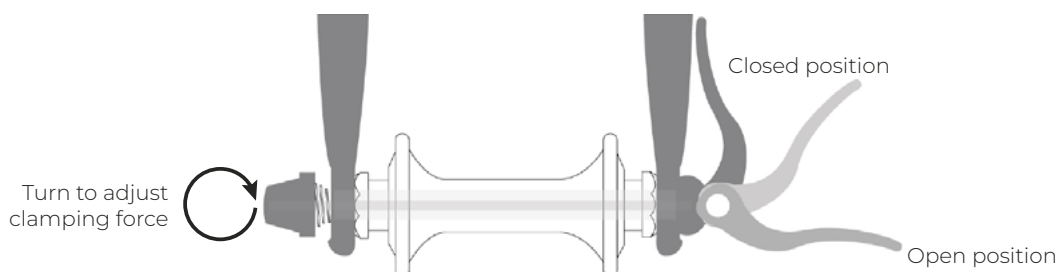

Figure 10
It is the power of the cam that maintains the wheel in place. It squeezes the wheel hub in between the fork arm ends or dropouts when switching the lever from the opened to the closed position. The tightening force depends on the torque applied on the adjusting nut. To increase the tightening force, you need to turn the adjusting nut clockwise while holding the lever with the other hand. To reduce it, turn the adjusting nut counterclockwise again holding the lever. Less than half a turn can make the difference between a safe and an unsafe tightening. The mechanism should emboss the dropout-ends when closed in the locked position. Refer to Figure 10.
- Turn the quick release lever into the opened position as shown on Figure 10;
- Turn the quick release lever to the opened position as illustrated in Figure 10;
- Shift the rear derailleur on to the highest gear which corresponds to the smallest sprocket. Turn the quick release lever to the opened position, referring to figure 10. Place the wheel with the quick release positioned on the rear derailleur's opposite side;